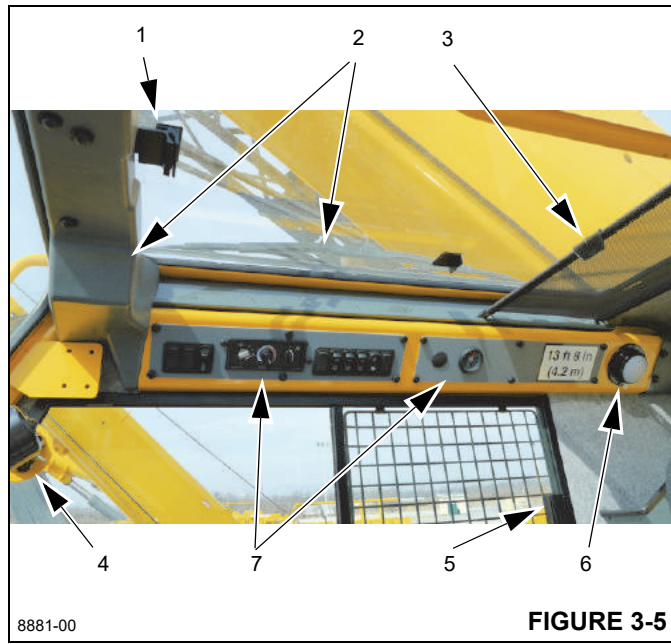
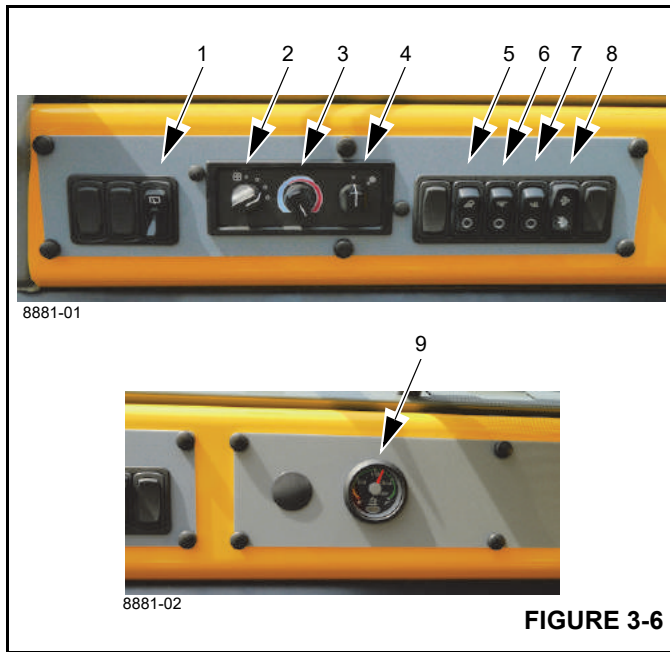

FIGURE 3-5
FIGURE 3-6
Refer to Figure 3-5.
The Skylight Wiper (2) is controlled by the wiper switch, (5) (Figure 3-6), and operated by the indicated motor.
Refer to (7) Figure 3-5 and Figure 3-6.
The Skylight Wiper Switch (2) controls the skylight wiper motor (2) (Figure 3-5). Toggle the switch from; off, through six intermittent timed positions, to low and high. Pushing the switch up from the off position energizes the wiper motor. Push the switch down to off to stop the motor and return the wiper blade to the parked position.